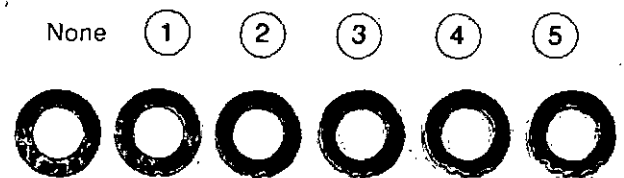
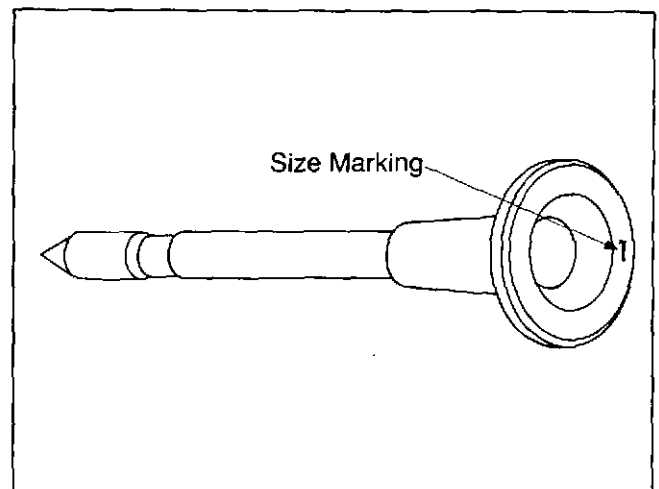
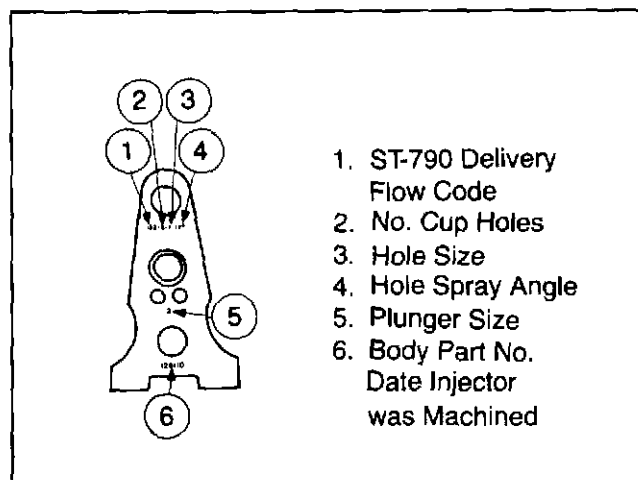

Fig. 3-21, (F60113). Injector cup gasket markings
Fig. 3-22, (F60114). Size marking location on the plunger
Fig. 3-23, (F60115). Size markings on flanged injector body
2. Select a new injector cup gasket corresponding to plunger body size, Fig. 3-21. See Table 3-3. See Fig. 3-22 for the location of the size markings on the plunger and Fig. 3-23 for the body markings.